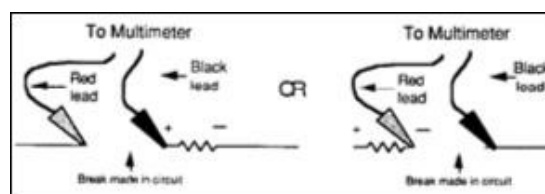

Figure 1.2: Measuring Voltage
- Next, press the Shift button and then the DC V button. Then, apply the clips at the end of the leads as shown in Figure 1.2
- Next, press the Shift button and then the AC V button. Then, apply the clips at the end of the leads as shown in Figure 1.2.